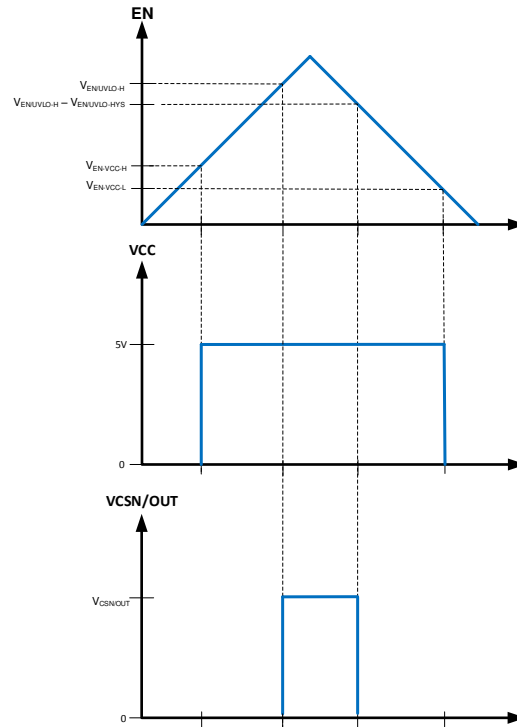

**Figure 10-1. SW Node and Inductor Current Waveforms in Continuous Conduction Mode (CCM)**
The following operating description of the TPS25830-Q1, TPS25831-Q1 will refer to the Functional Block Diagram and to the waveforms in Figure 10-1. TPS2583x-Q1 is a step-down synchronous buck regulator with integrated high-side (HS) and low-side (LS) switches (synchronous rectifier). The TPS2583x-Q1 supplies a regulated output voltage by turning on the HS and LS NMOS switches with controlled duty cycle. During high-side switch ON time, the SW pin voltage swings up to approximately  $V_{IN}$ , and the inductor current  $i_L$  increase with linear slope  $(V_{IN} - V_{OUT}) / L$ . When the HS switch is turned off by the control logic, the LS switch is turned on after an anti-shoot-through dead time. Inductor current discharges through the LS switch with a slope of  $-V_{OUT} / L$ . The control parameter of a buck converter is defined as Duty Cycle  $D = t_{ON} / T_{SW}$ , where  $t_{ON}$  is the high-side switch ON time and  $T_{SW}$  is the switching period. The regulator control loop maintains a constant output voltage by adjusting the duty cycle  $D$ . In an ideal buck converter, where losses are ignored,  $D$  is proportional to the output voltage and inversely proportional to the input voltage:  $D = V_{OUT} / V_{IN}$ .
The TPS2583x-Q1 is internally compensated as shown in Figure 10-1. The internal compensation is designed such that the loop response is stable over the specified operating frequency and output voltage range. The TPS2583x-Q1 is optimized for transient response over the range  $300 \text{ kHz} \leq f_{sw} \leq 2300 \text{ kHz}$ .